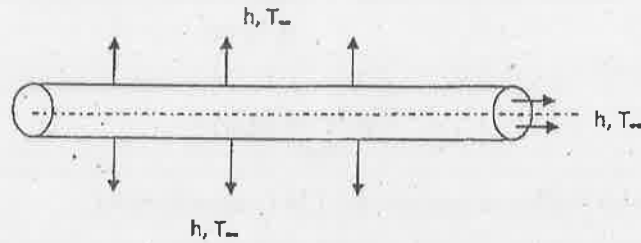

Figure.15(a)
15. (a) The figure 15 (a) shows a uniform Aluminum fin of diameter 25 mm. The root (left end) of the fin is maintained at a temperature of $T_0 = 120^\circ\text{C}$, convection takes place from the lateral (circular) surface and the right (flat) edge of the fin. Assuming $k = 200 \text{ W/m}^\circ\text{C}$, $h = 1000 \text{ W/m}^2\text{C}$ and $T = 20^\circ\text{C}$, determine the temperature distribution in the fin using one dimensional element, considering two elements.